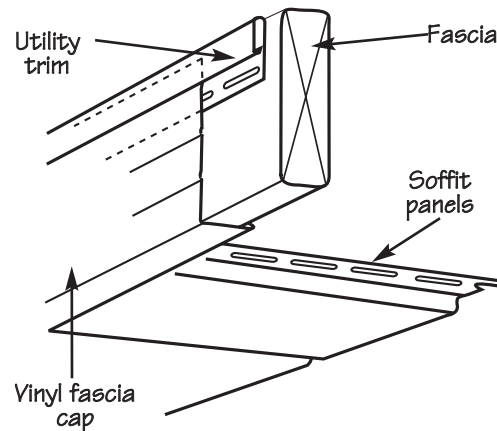

Figure 69.
3. Insert the panel into the channel on the wall, then into the channel at the fascia board (Fig. 69).